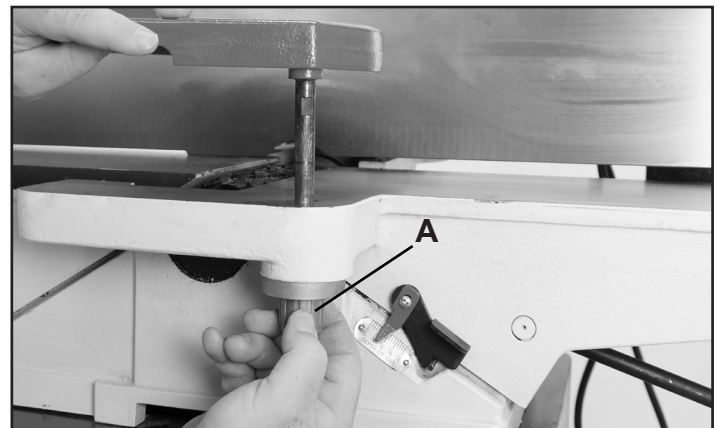

FIG. 13
1. Turn spring knob (A-Fig. 13) approximately one-half revolution counterclockwise and hold.